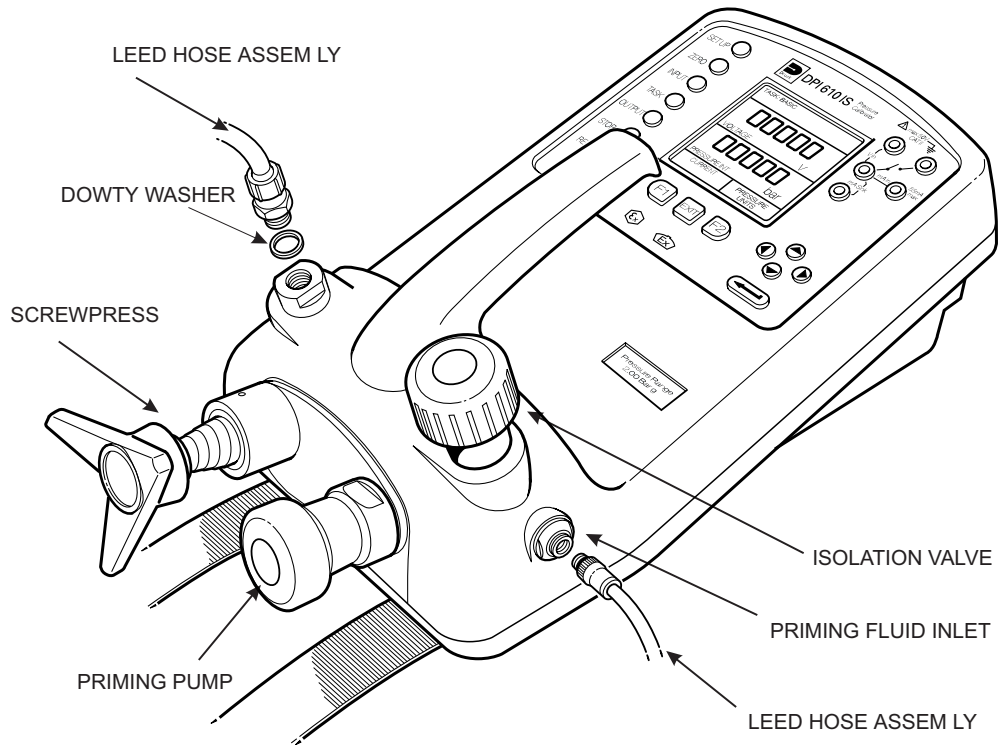

Figure A1 - DPI 610 HC Connections
This version of the DPI 610 provides manual generation of hydraulic pressure and consists of a screw-press with a priming pump and priming isolation valve as shown below. The bleed pipe connections are also shown in Figure A1.
- ❑ Fit the bleed pipe connection to the priming port using a bonded seal as shown in Figure A1.